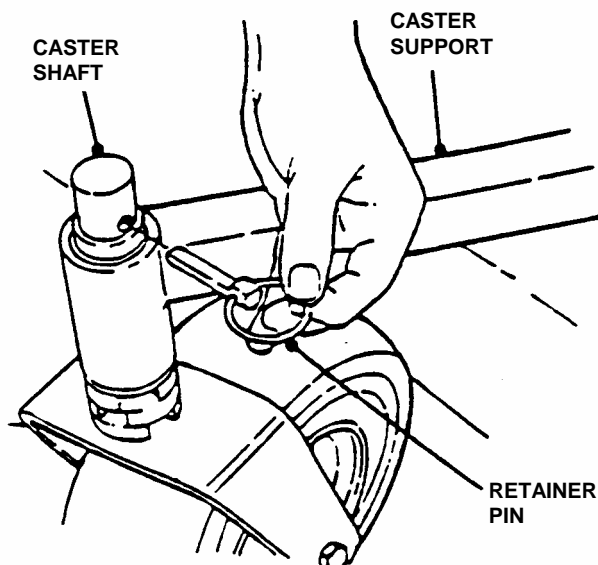

FIGURE 3.11
1. Remove Retainer Pin from Caster Shaft. See Figure 3.11.